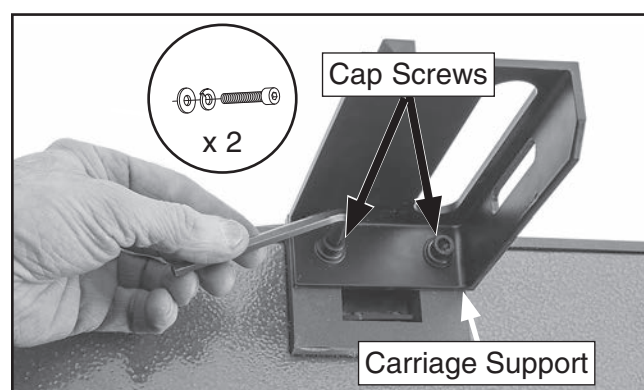

Figure 10. Attaching carriage support to bed assembly.
1. Use (2) M8-1.25 x 20 cap screws, (2) 8mm flat washers, and (2) 8mm lock washers to attach carriage support to jointer (see **Figure 10**).